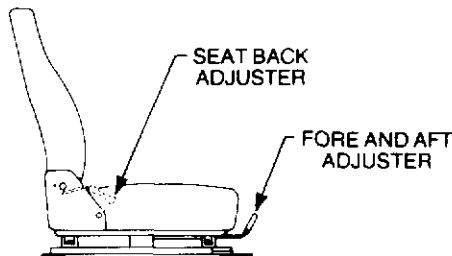

Figure 1-14 Seat adjustment
79. Cabin seating (Fig. 1-14)
The central cabin seat back can be tilted forward and utilized as a platform by the observer using the roof hatch, and the fore and aft movement can be adjusted as illustrated in Fig. 1-14.